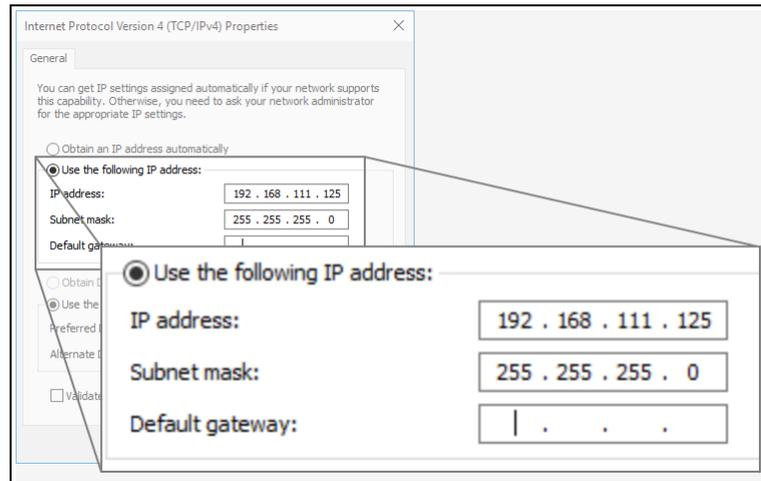

Figure 108: Changed Internet Protocol Version 4 (TCP/IPv4) Properties dialog box
11. In the **IP Address** text box, enter an IP Address that is **in the same subnet range but a DIFFERENT IP Address** than the Z9-P or Z9-PE or all other units in the network. Figure 108